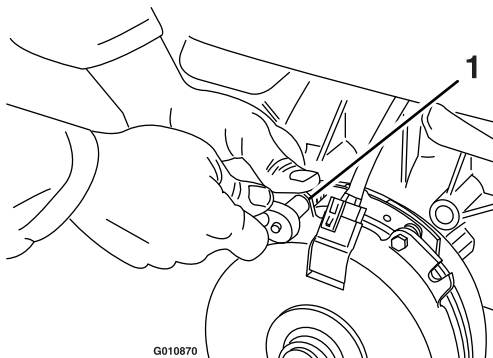

Figure 80
- A. Loosen both brake-mounting bolts 1/2 to 1 full turn as shown in Figure 80.